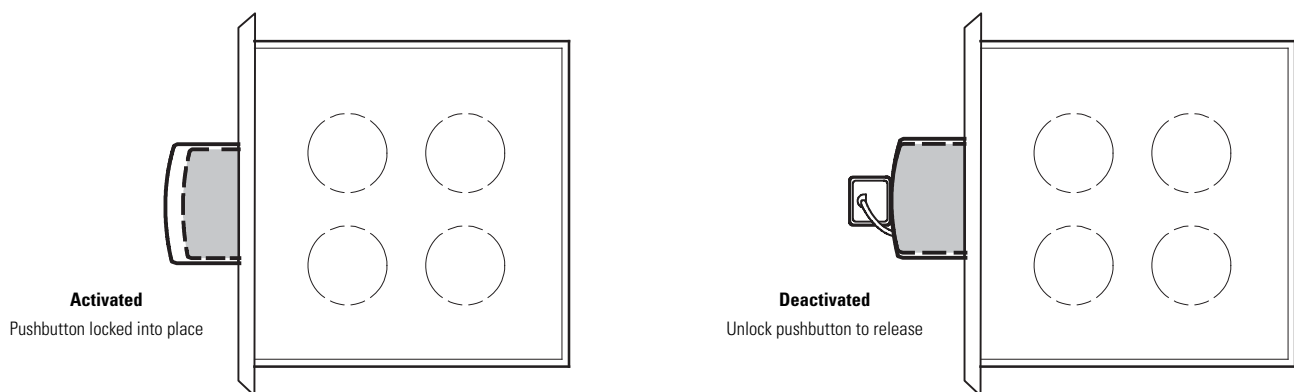

Figure 6-21. REPO Operation
1. Firmly push the red pushbutton until it locks into place. The switch latches into the activated state (see Figure 6-21).
2. To deactivate the REPO switch in preparation for restarting the UPS, insert the supplied key and rotate clockwise until the red pushbutton releases (see Figure 6-21). To remove the key, rotate the key back to the vertical position.